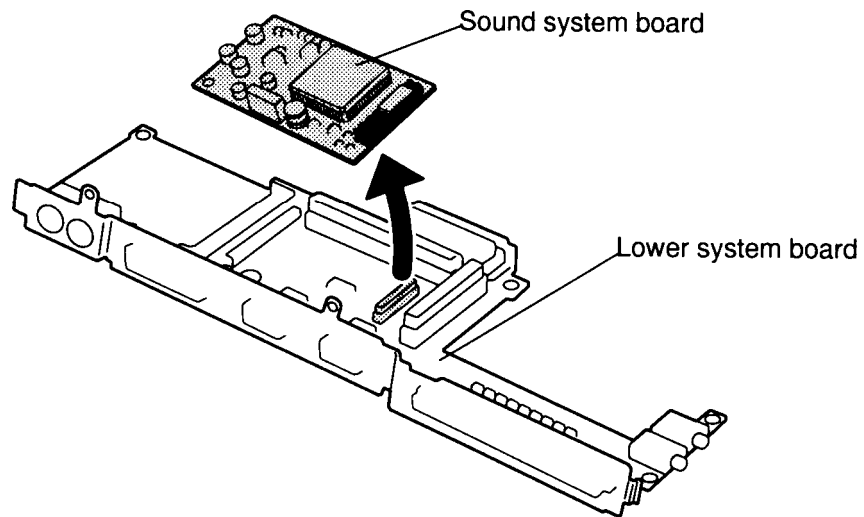

Figure 4-41 Removing the sound system board
- Turn the lower system board over and disconnect the **sound system board** from the **lower system board** (Figure 4-41).
To install the T4850CT's lower system board, follow the steps below and refer to Figures 4-41 back through 4-39, and 4-33.
1. Connect the **sound system board** to the **lower system board**, then turn the board over and place the lower system board on the base assembly frame (Figures 4-41 and 4-40).